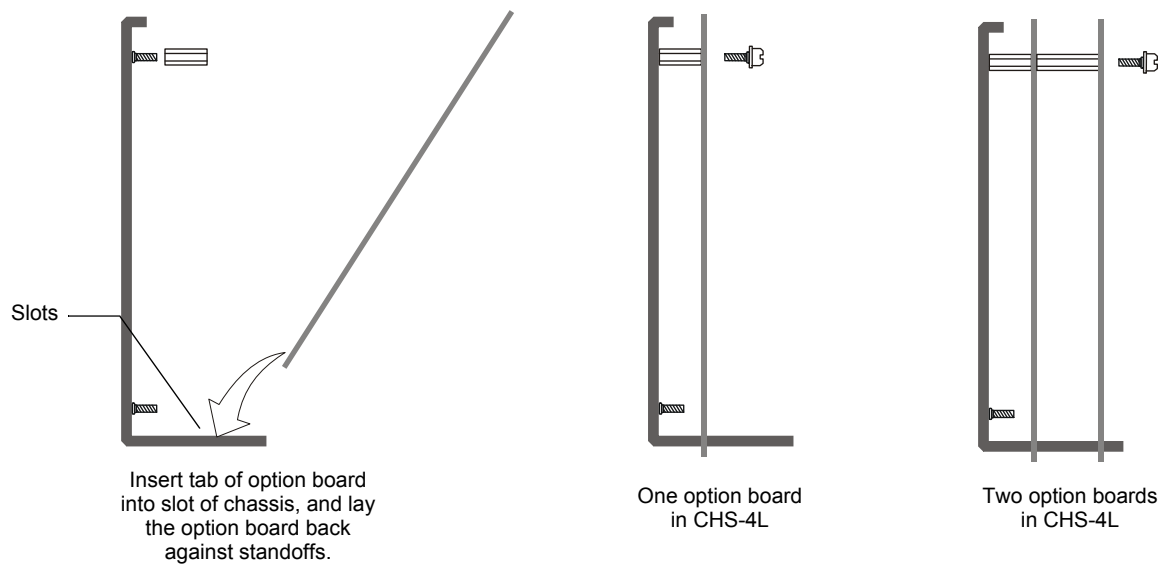

Figure 3.11 Mounting an Option Board in a Chassis (CHS-4L Shown)
1. Slide the tabs at the bottom of the option board into slots on the chassis as shown in Figure 3.11.